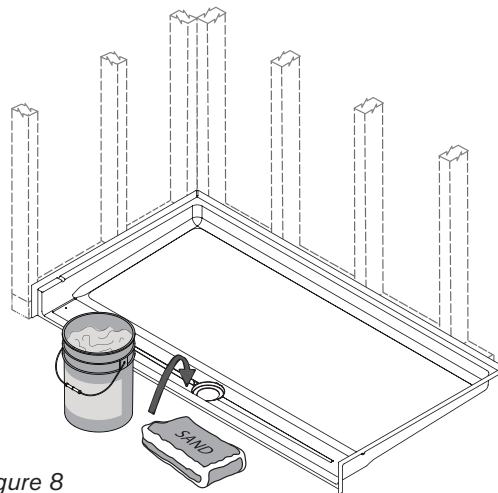

Figure 8
- 15 Place a weight (a bucket of water or sand) over the area to ensure the epoxy will be effective. (Figure 8)